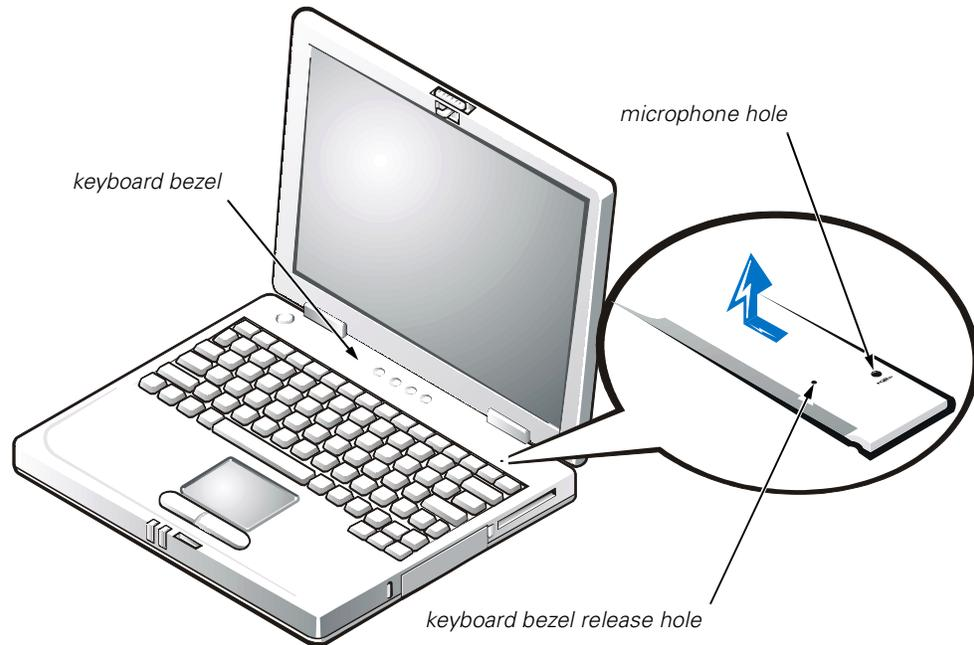

Figure 7. Keyboard Bezel Removal
NOTICE: To avoid damaging the microphone, do not put any objects into the microphone hole (see Figure 7).
1. Place the point of a paper clip, a very small flat-blade screwdriver, or a tool of similar size in the keyboard bezel hole and carefully push down (see Figure 7).